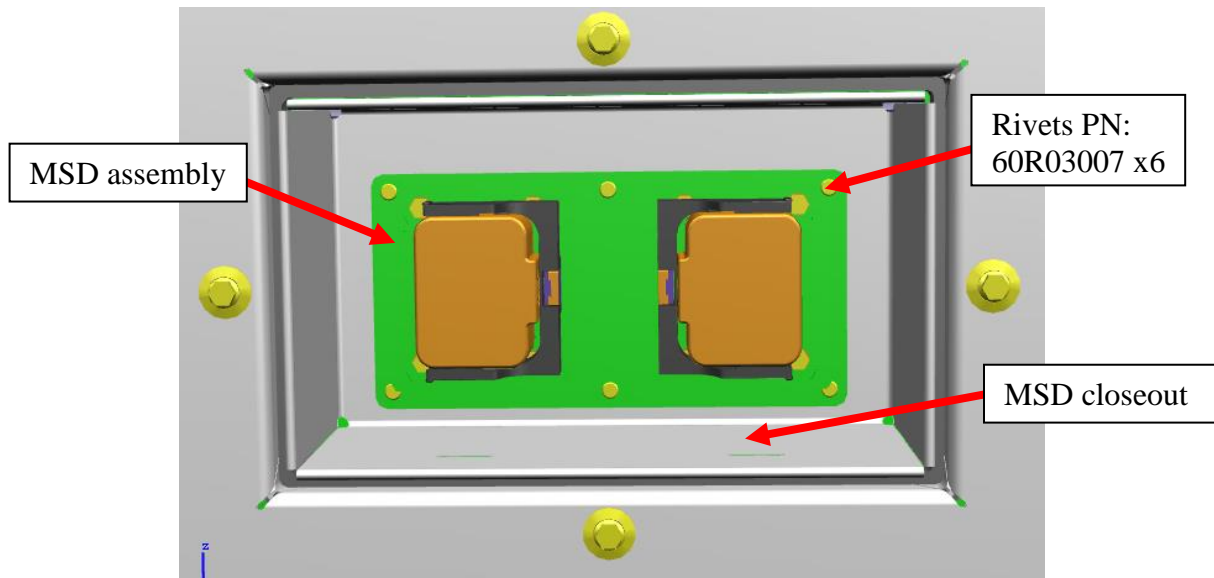

Figure 18: Rear ESS MSD final assembly
- 3.4.5 Install new MSD assembly onto MSD closeout using rivets PN: (60R03007) x6. See figure 18.